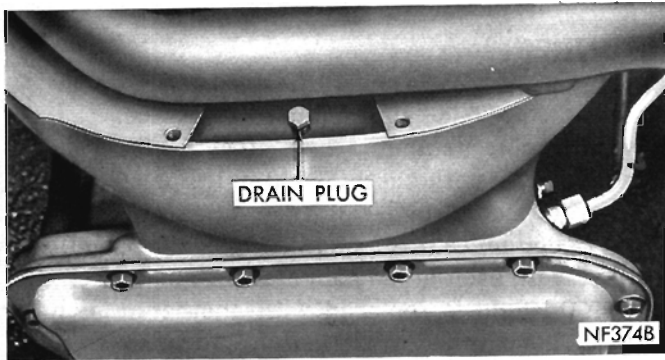

Fig. 4—Converter Drain Plug
(1) Raise vehicle on a hoist. Place a drain container with a large opening, under transmission oil pan.
(2) Loosen pan bolts at one corner, tap the pan to break it loose allowing fluid to drain, then remove the oil pan.
(3) Remove access plate from in front of converter, remove drain plug allowing fluid to drain (Fig. 4). Install and tighten converter drain plug to 110 inch-pounds, and install the access plate.
(4) If necessary, adjust the reverse band.
(5) Install a new filter on bottom of the valve body, and tighten retaining screws to 35 inch-pounds.
(6) Clean the oil pan, and reinstall using a new gasket. Tighten oil pan bolts to 150 inch-pounds.